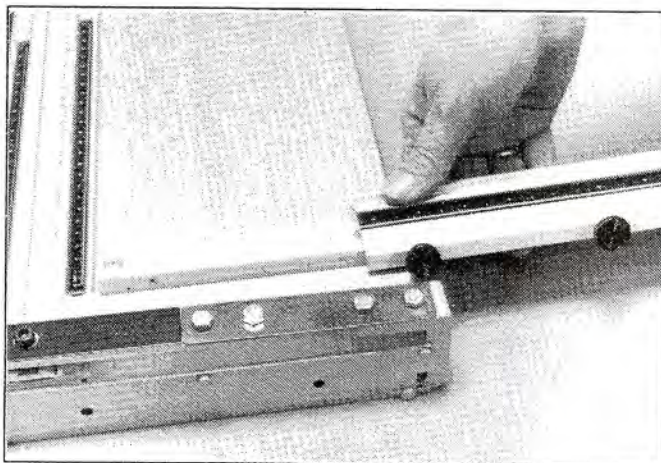

Fig.1.
Loosen the two locking screws on the squaring arm (8) and slide it onto the keyway on the base as far as it will go (Fig. 1). Tighten both locking screws securely.